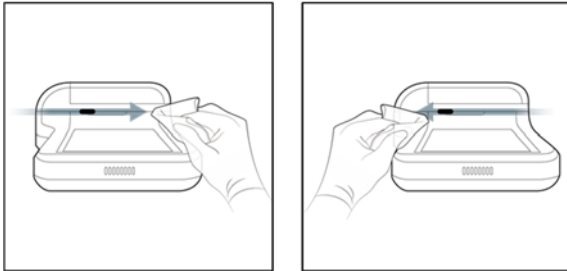

Figure 10. Wipe the item selection key.
7. Follow the Figure 10 to wipe the item selection key.